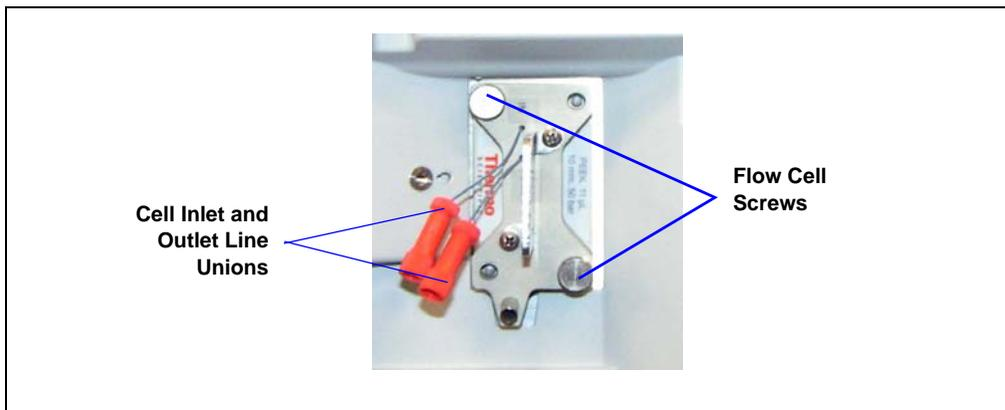

Figure 5-7. Removing the Flow Cell
1. Unclip the cell inlet and outlet line unions (see Figure 5-7).
1. Orient the new flow cell (standard cell, P/N 066346; semi-micro cell, P/N 6074.0300) with the cell inlet and outlet unions on the left (see Figure 5-7) and push the flow cell into the opening in the detector.